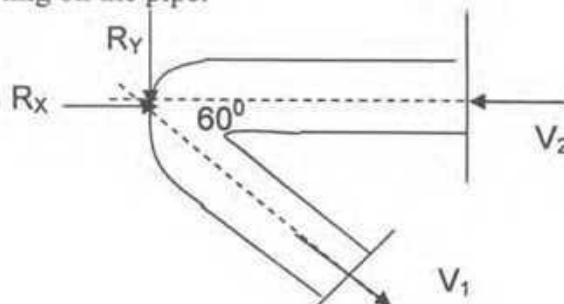

Figure 4
- c. Water enters in a  $120^\circ$  horizontal reducing pipe with a velocity of  $5 \text{ m/sec}$  and a pressure of  $80 \text{ kN/m}^2$  as shown in Figure 4. If the diameters at the entrance and exit sections are  $25 \text{ cm}$  and  $15 \text{ cm}$  respectively, calculate the components of the reaction e.g.  $R_x$  and  $R_y$  acting on the pipe. 13